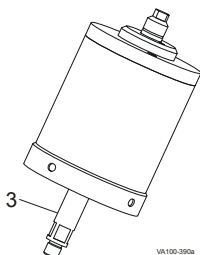

Figure 29: Pull Lower Stem
5. Pull the lower stem (Figure 29, item 3) to remove the caged spring assembly from the actuator cylinder.